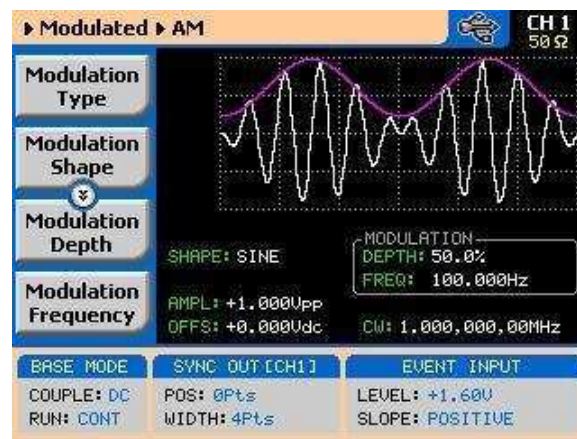

Figure 3-33: AM Menu
The AM function enables amplitude modulation of a carrier waveform (CW). The carrier waveform is modulated by an internal waveform, normally referred to as envelope waveform. The envelope waveform can be selected from sine, triangle square or ramp shapes. When AM is selected, the menus that are associated with AM become accessible. These are shown in *Figure 3-33*.